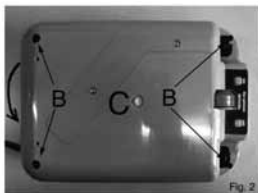

Fig. 2
1. REMOVE THE 4 SCREWS "B" AND THEN OPEN THE COVER "C" ROTATING IT SLIGHTLY" (Figure 2)